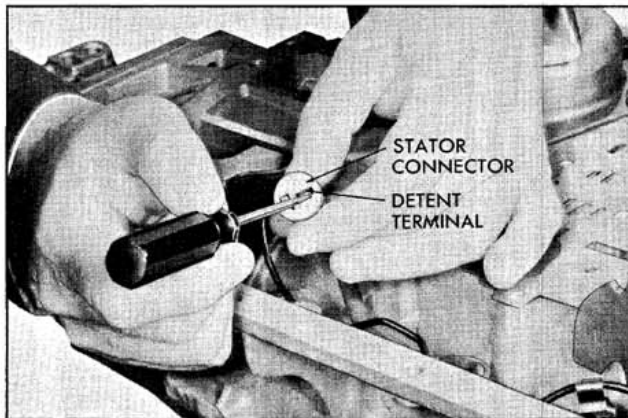

Fig. 6-40 Disconnecting Detent Terminal From Connector
6. Disconnect detent terminal from stator connector. (Fig. 6-40)